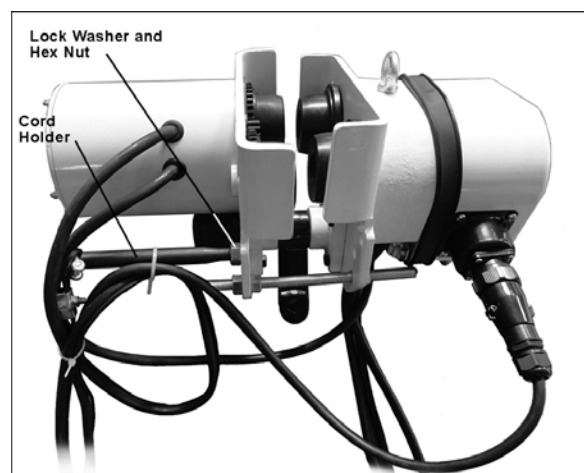

Figure 3
1. Thread the cord holder (Figure 3) into the hole on the motor side plate and tighten the jam nut and lock washer. The ring on the cord holder should be positioned vertically.